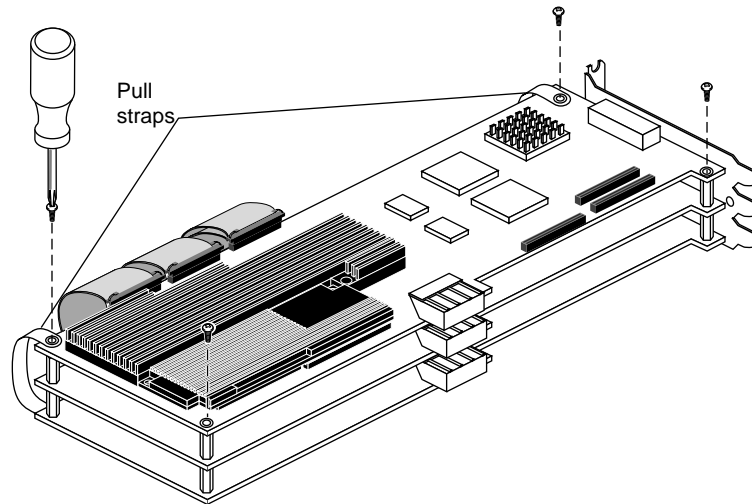

Figure 5-42 Replacing the Screws
15. Replace the screws in the standoffs. See Figure 5-42.